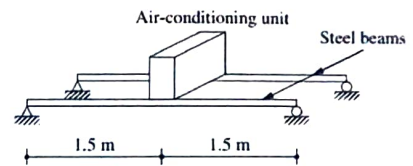

Figure 3
- Q.5. An air-conditioning unit with a mass of 320 kg is bolted at the middle of two parallel simply supported steel beams (Figure 3). The clear span of the beams is 3 m. The second moment of cross-sectional area of each beam is 450 cm^4 . The motor in the unit runs at 477.5 rpm and produces an unbalanced vertical force of 300 N at this speed. Neglect the mass of the beams and assume 1% viscous damping in the system; for steel $E = 200,000 \text{ MPa}$.